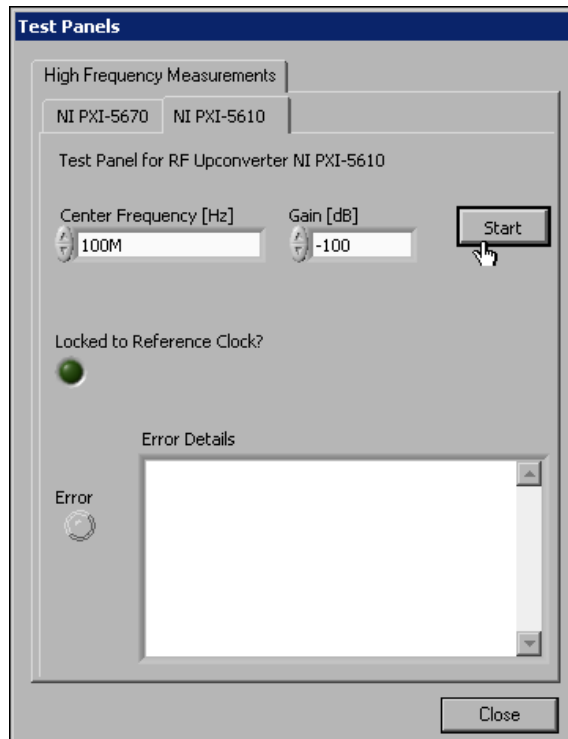

Figure B-4. Click the NI PXI-5610 Tab to View the Upconverter Module Test Panel
10. In the **Test Panels** window, click the **NI PXI-5610** tab to view the NI 5610 test panel shown in Figure B-4.